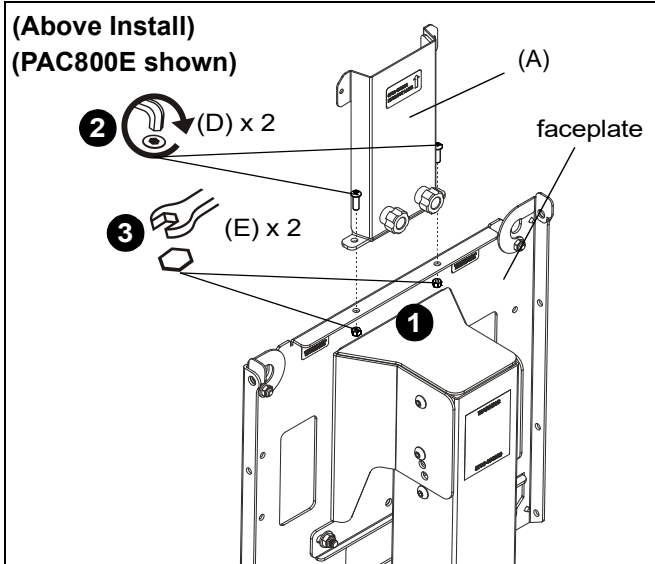
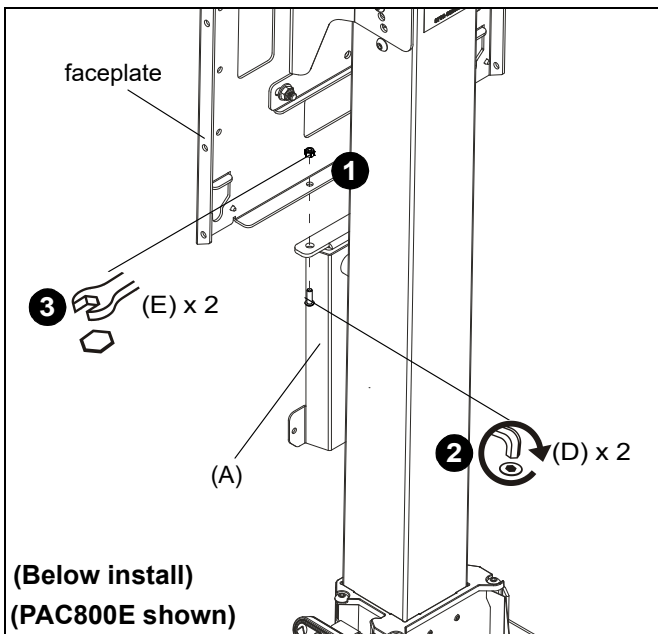

Figure 1
Figure 2
1. Position main bracket (A) above or below the faceplate making sure to line up the holes on the bracket with the holes on the faceplate. (See Figure 1) or (See Figure 2)
2. Install two 1/4-20 x 3/4" button head cap screws (D) through holes in bracket (A) and faceplate. (See Figure 1) or (See Figure 2)
3. Thread two 1/4-20" lock nuts (E) onto screws (D) to secure bracket (A) to faceplate. (See Figure 1) or (See Figure 2)